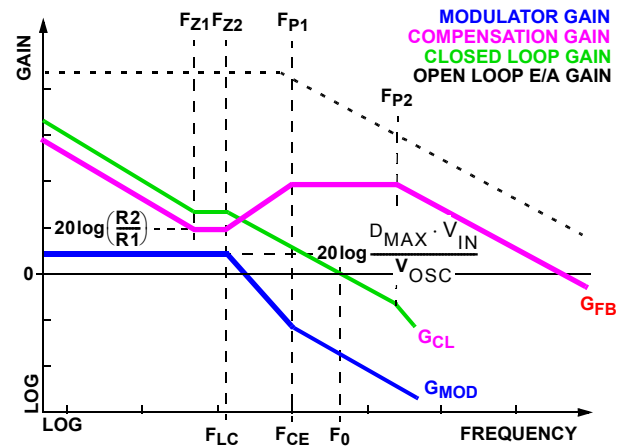

FIGURE 8. ASYMPTOTIC BODE PLOT OF CONVERTER GAIN
Figure 8 shows an asymptotic plot of the DC/DC converter's gain vs frequency. The actual Modulator Gain has a high gain peak dependent on the quality factor (Q) of the output filter, which is not shown. Using the previously mentioned guidelines should yield a compensation gain similar to the curve plotted. The open loop error amplifier gain bounds the compensation gain. Check the compensation gain at F_{P2} against the capabilities of the error amplifier. The closed loop gain, G_{CL} , is constructed on the log-log graph of Figure 8 by adding the modulator gain, G_{MOD} (in dB), to the feedback compensation gain, G_{FB} (in dB). This is equivalent to multiplying the modulator transfer function and the compensation transfer function and then plotting the resulting gain.